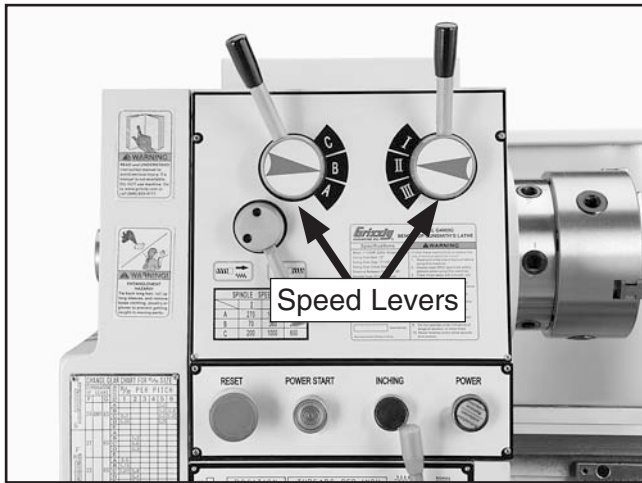

Figure 12. Headstock controls.
5. Rotate the red stop/RESET button (**Figure 12**) clockwise so it pops out, and make sure the motor direction selector points to STOP.
6. Move the speed levers to **B** and **1** so the spindle will rotate at 70 RPM (**Figure 12**).